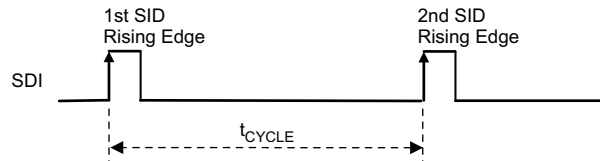
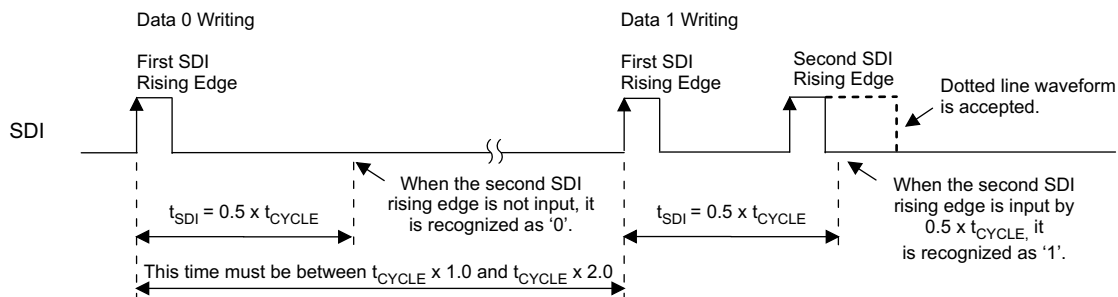

Figure 16. Data Transfer Rate (t_{CYCLE}) Measurement
Figure 17. Data '0' and '1' Write Operation
The TLC59731 measures the time between the first and second SDI rising edges either after the device is powered up or when the GS data latch sequence is executed (as described in the GS Data Latch Sequence \(GSLAT\) section) and the time is internally stored as t_{CYCLE} . t_{CYCLE} serves as a base time used to recognize one complete data write operation, a 32-bit data write operation, and a GS data write operation to the GS data latch. t_{CYCLE} can be set between 1 μs and 50 μs ($f_{\text{CLK(SDI)}} = 20 \text{ kHz to } 1000 \text{ kHz}$). In this sequence, two instances of data '0' are written to the LSB side of the 32-bit shift register. Figure 16 shows the t_{CYCLE} measurement timing.
When the second SDI rising edge is not input before 50% of t_{CYCLE} elapses from the first SDI rising edge input, the second rising edge is recognized as data '0'. When the second SDI rising edge is input before 50% of t_{CYCLE} elapses from the first SDI rising edge input, the second rising edge is recognized as data '1'. This write sequence must be repeated 30 times after the t_{CYCLE} measurement sequence in order to send the write command to the lower 6-bit (3Ah) and 24-bit GS data. Figure 17 shows the data '0' and '1' write timing.
2. Write the 32-bit data packet (MSB-first) for the first device using t_{CYCLE} and the data write sequences illustrated in Figure 16 and Figure 17. The first 8-bits of the 32-bit data packet are used as the write command. The write command must be 3Ah (00111010b); otherwise, the 24-bit GS data in the 32-bit shift register are not copied to the 24-bit GS data latch.